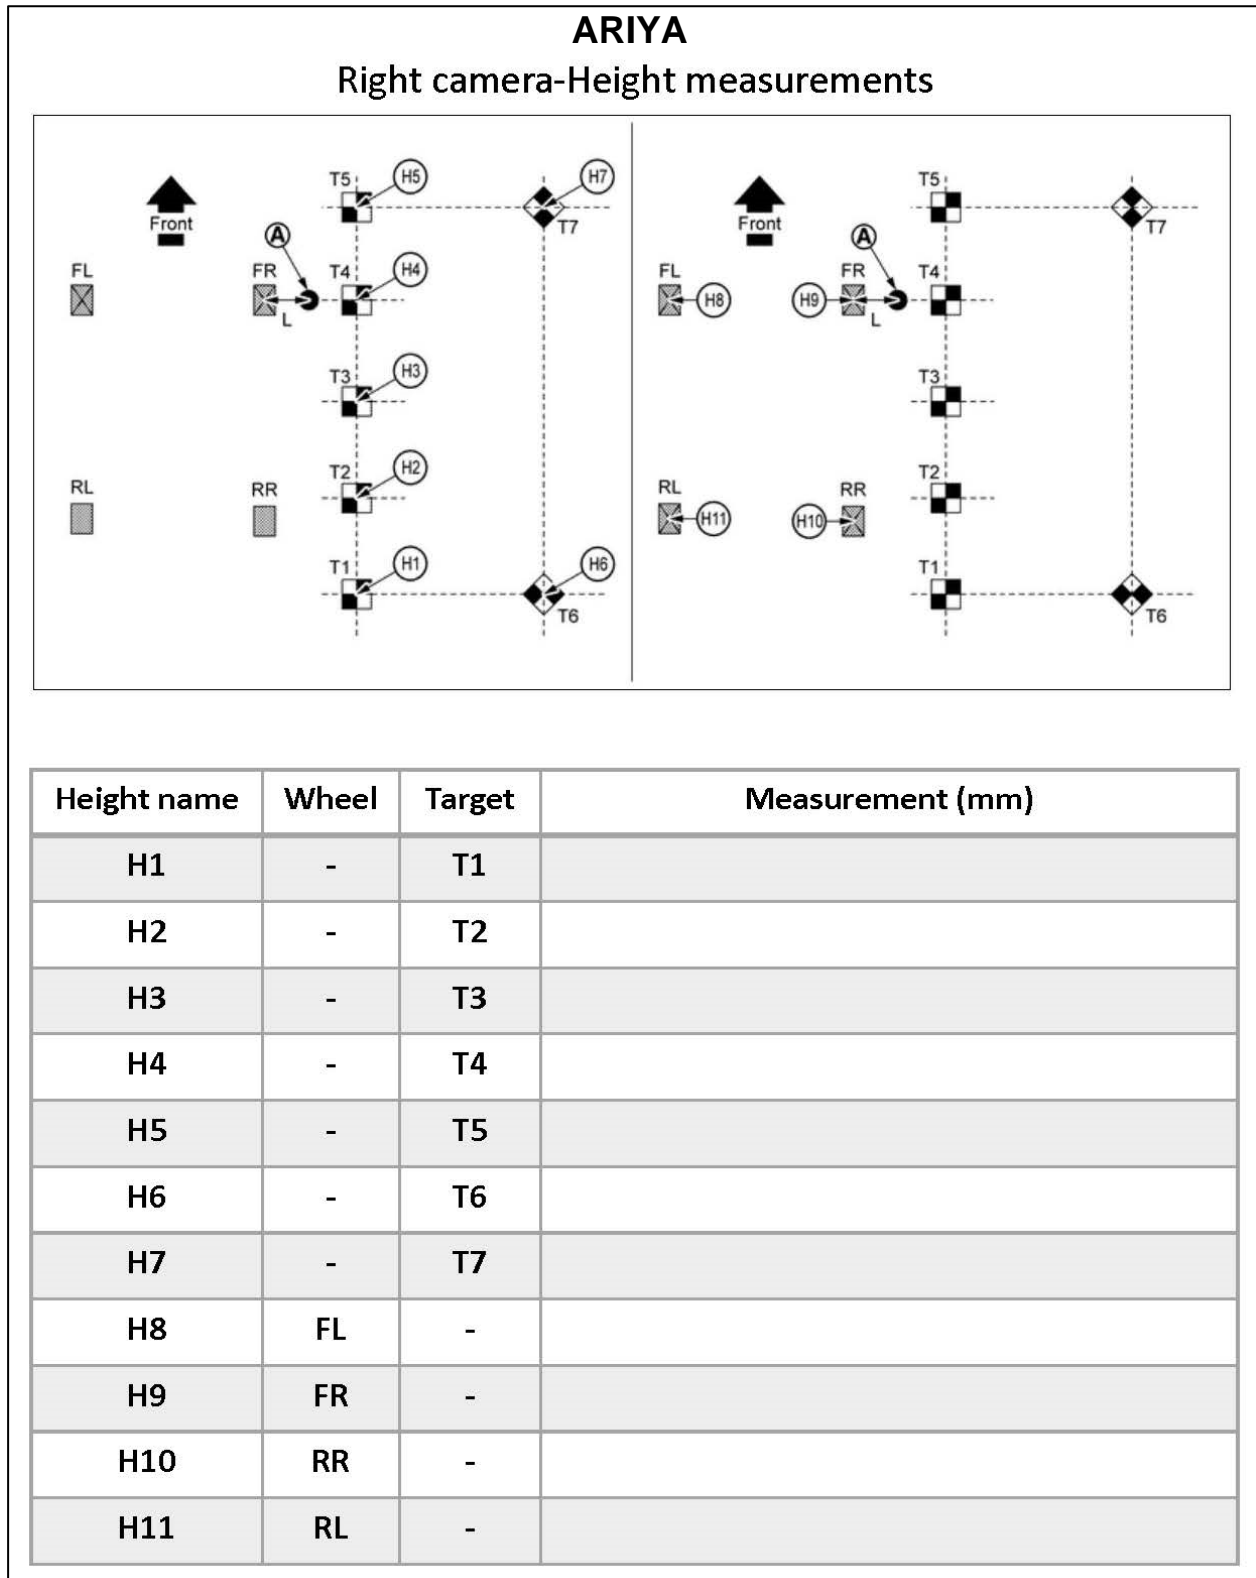

Figure 61
39. Refer to steps 35 - 37 on page 26 to set up the laser level to measure the height of the passenger (RH) side camera, and then document the measurements in Figure 61.
IMPORTANT: All measurements must be in millimeters (mm). Refer to the illustrations in Figure 61 to ensure the correct measurement is documented in the correct order and for each calibration target.